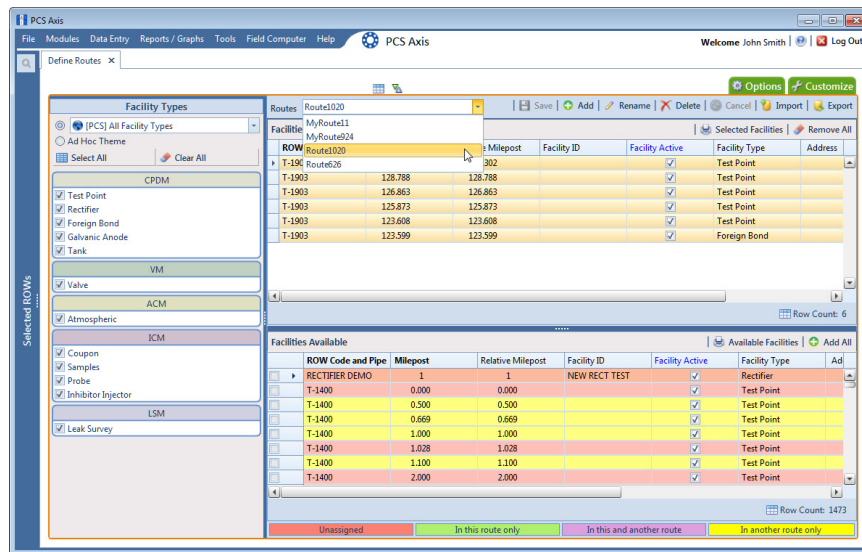

Figure 8-50. Define Routes
- 2 Click **Data Entry > Define Routes** to open the *Define Routes* window. Click the down arrow in the **Routes** field and select a route in the list (Figure 8-50).
- 2 Click **Data Entry > Define Routes** to open the *Define Routes* window. Click the down arrow in the **Routes** field and select a route in the selection list (Figure 8-50, page 423).